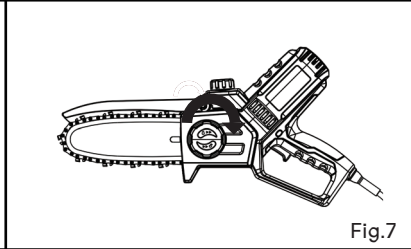

Fig.7
4. Once the saw chain has been properly tensioned, turn the bar retention knob to tighten the sprocket cover. Tighten it enough to securely fasten the cover to the saw, ensuring it doesn't move, but not so tight that it restricts the movement of the guide bar and saw chain (Fig.7).